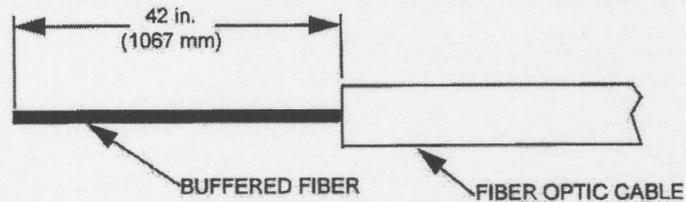

Figure 4: Preparing Fiber Optic Cables
2. Prepare the fiber optic cable(s) as shown in (**Figures 4 & 5**).